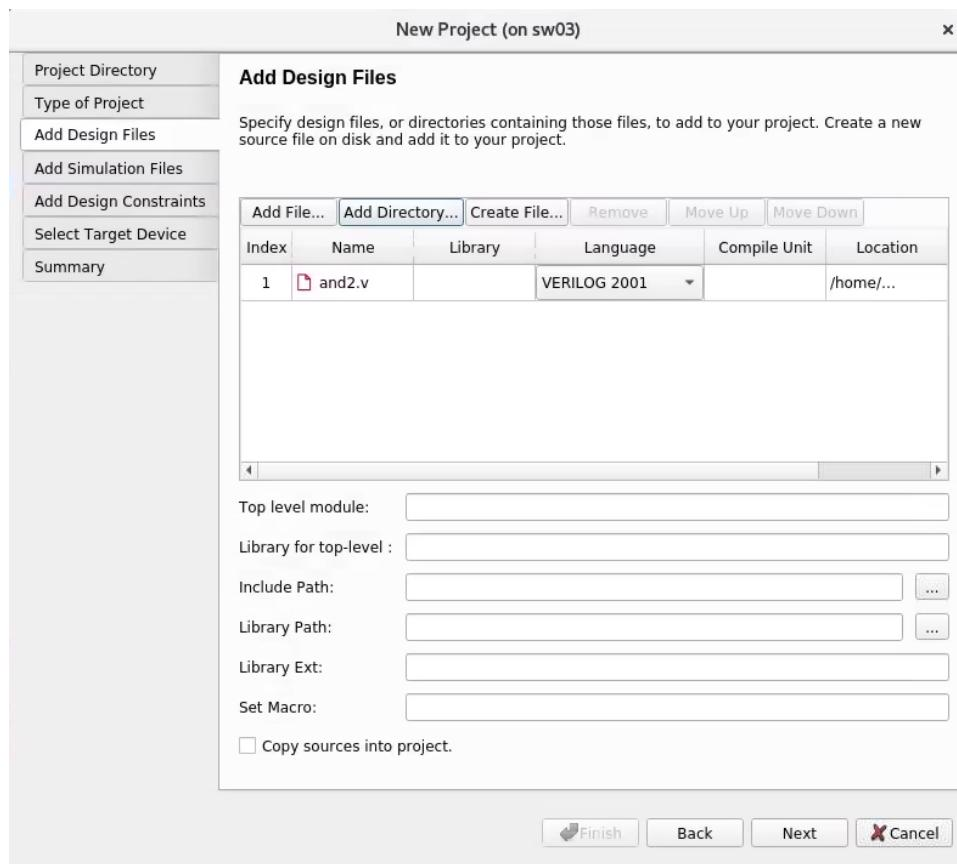

Figure 16. Add Files to the Project
7. Once the design files have been added, the wizard shows the file(s) that will be added to the project. The user is also presented with various options as shown in **Figure 16**.